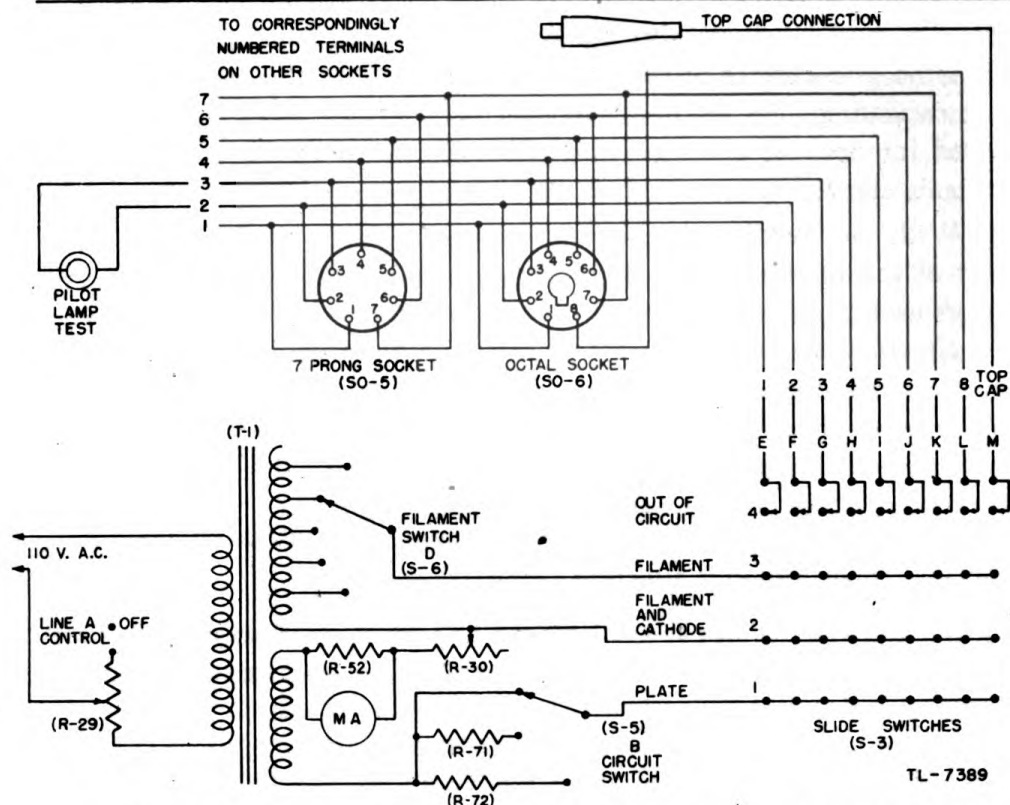

FIG. 12. MODEL 104 COMBINATION TESTER, SIMPLIFIED
a. *Combination Tester as Tube Checker (fig. 12).* Control A (LINE CONTROL) is a 164-ohm rheostat (R-29) which adjusts transformer (T-1) for changes in line voltage. Control B (S-5) is a 10-position 4-wafer switch used to select the proper circuit for tube tests. Control C (R-30) is a 200-ohm potentiometer which provides the proper load for the tube being tested. Control D (S-6), a 20-position 4-wafer switch, sets the proper filament voltage for the tube under test. Slide switches (S-3) are single-pole 4-position switches used to connect the tube terminals to the test circuits. Tube socket terminal 1 connects to the arm of switch E, terminal 2 to the arm of switch F, etc. The arm of switch M is connected to the top-cap clip. In position 1, the slide switch arms connect Control B and the proper load resistor to a 30-volt winding on transformer (T-1), providing the correct plate voltage for the tube being tested. In position 2, the slide switch arms connect the common leads of the two secondary windings on transformer (T-1), to the cathode of the tube being tested. In position 3, the slide switch arms connect the filament taps on the transformer (T-1) to the tube filament through control D. The emission of the tube is shown on the indicating meter. In position 4, the slide switch arms are out of the tube testing circuit. When the LINE CHECK button is pressed, a secondary winding of transformer (T-1) is connected to the type-H rectifier (RE-2), which changes the a-c to d-c voltage. The d-c voltage is then read on the indicating meter. The fila-